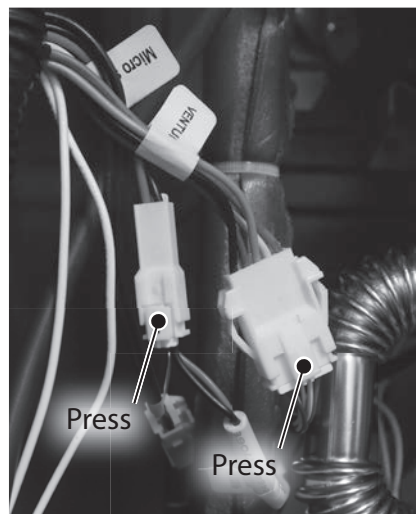

Figure 131 - Locate venturi and micro switch wires
- 17** Locate the wire connectors labeled "Venturi" and "Micro Switch" and disconnect them as shown in Figure 131. These wires are connected at and run through the black cable conduit located on the left side of the water heater cabinet.